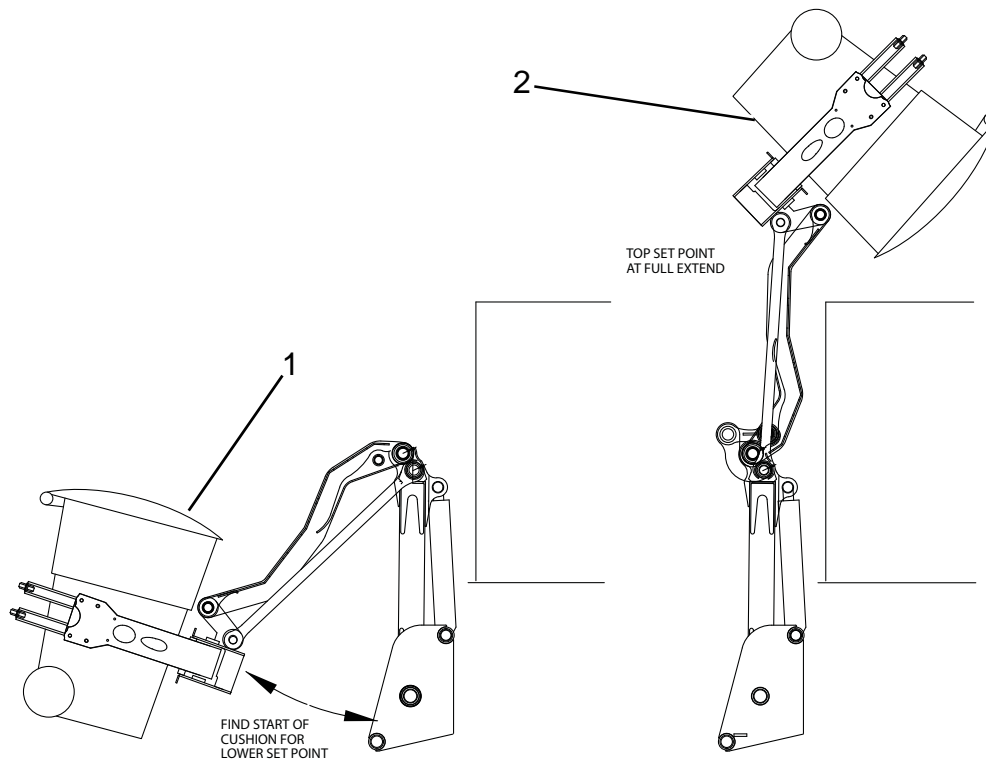

Figure 23
- Locate the arm assembly just before the position (**Figure 23, 1**) when the cushion of the dump cylinder took effect.
- Fully raise the arm assembly to the dump position (**Figure 23, 2**).